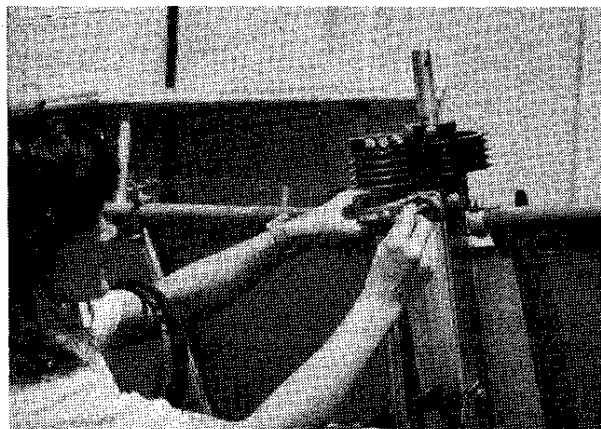

Figure 2.13
18. Install belt reduction assembly by sliding pillow block bearing with drive shaft onto (2) 7/16" bolts with lower bearing plate. Add flat washers, star washers and nuts. **Figure 2.13**